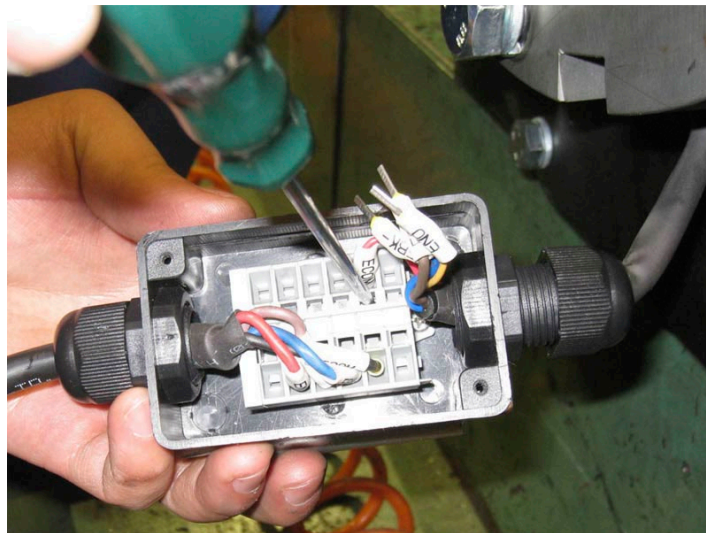
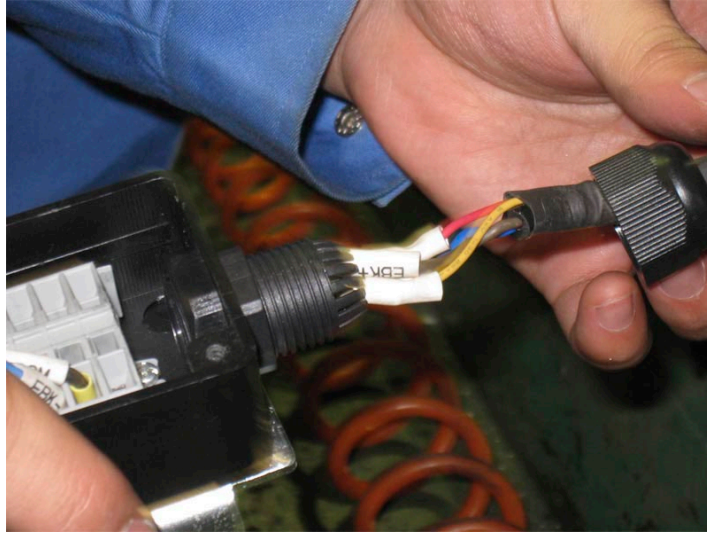

Figure 21 Brake Switch Terminal
Figure 22 Brake Switch Connection
2. Take off the brake side cable in brake terminal using a straight head screwdriver, then remove the cable through the connector. See Figure 21 and Figure 22.